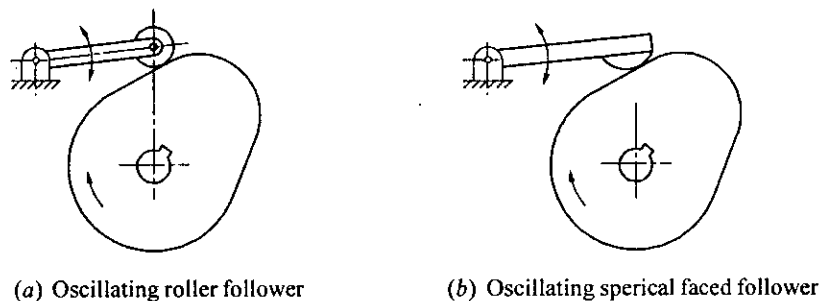

Fig. 8.4 Oscillating follower
2. *Oscillating arm or pivoted follower:* The motion of the oscillating arm follower is along a curved path such as an arc (fig. 8.4).